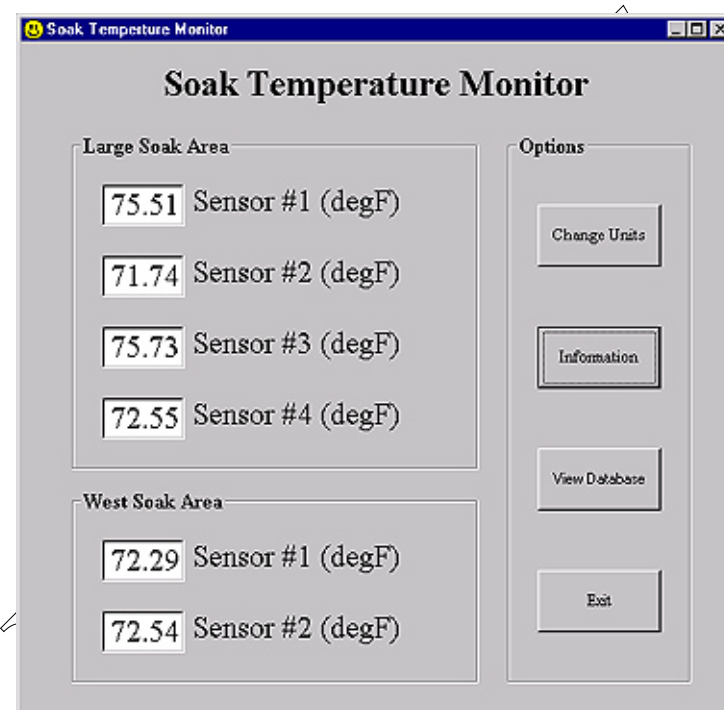

Figure 1
- 101 The STM computer should continuously display the "Soak Temperature Monitor" screen. See Figure 1. Soak area temperature is automatically displayed and logged on the STM computer. Logged data is stored on the database, "SoakTemps.mdb."